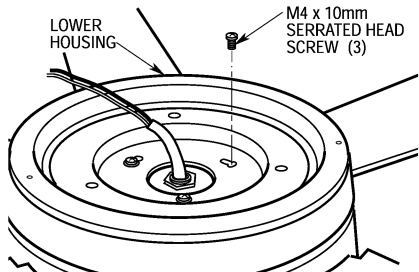

Figure 7
- 9. Position the lower housing onto the fan motor assembly, aligning each of the three holes. Attach the lower housing to the fan motor assembly using three M4 x 10mm serrated head screws. Rotate the lower housing to securely tighten by engaging the screws in the two key hole slots (Figure 7).